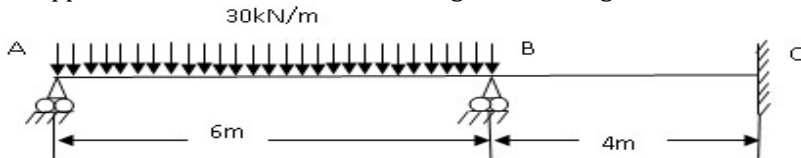

Fig. 3
2. (a) A continuous beam ABC consists of spans AB = 6 m and BC = 4 m as shown in fig. 3. The end A is simply supported while the end C is fixed. The span AB carries a uniformly distributed load of 30 kN/m. The span BC does not carry any load. The beam is of uniform section. Using slope deflection method, find the support moments and draw the bending moment diagram.